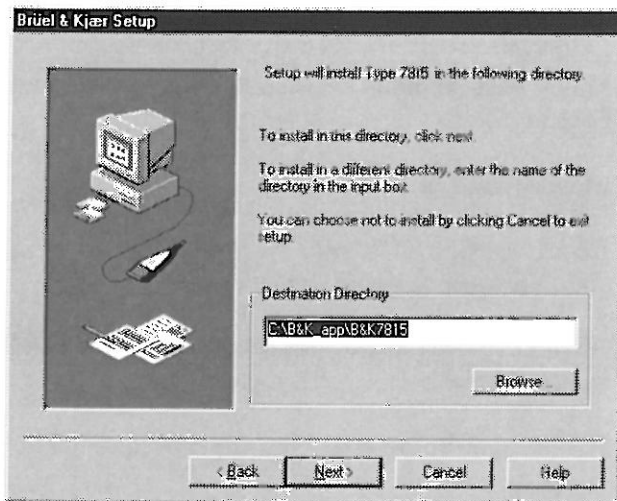

Fig. 3 The Noise Explorer home directory is specified in the Destination Directory box
8. The dialog box shown in Fig. 3 will be displayed. To accept the proposed drive and directory choose  .